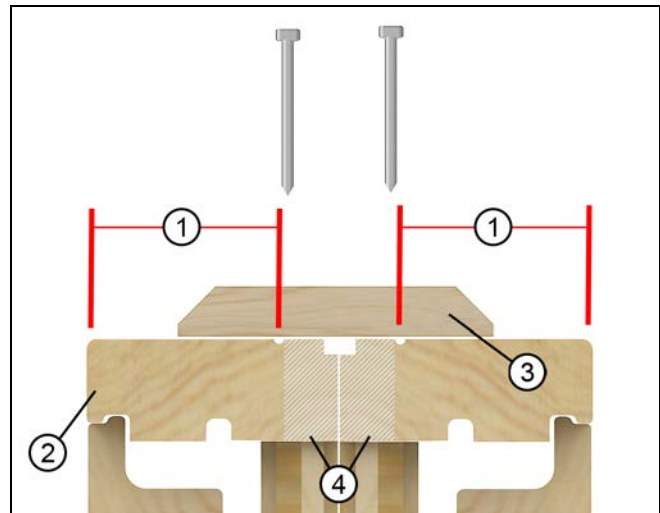

Figure 65
1. Install mullion trim after interior trim or casing is applied. Be sure to use nails and staples that are no longer than 3/4" (19). Place fasteners at least 1 3/16" (29) from the edge of interior jamb liner. See Figure 65.